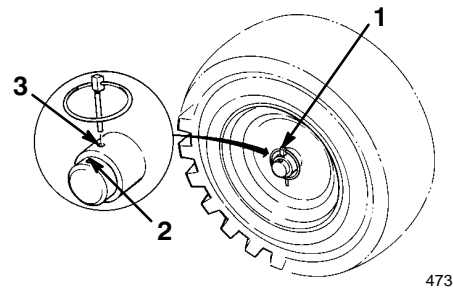

Figure 5
9. Slide the wheels inward and install the axle pin through the holes in the wheel hub and through the **inner** hole of the axle (Fig. 5).